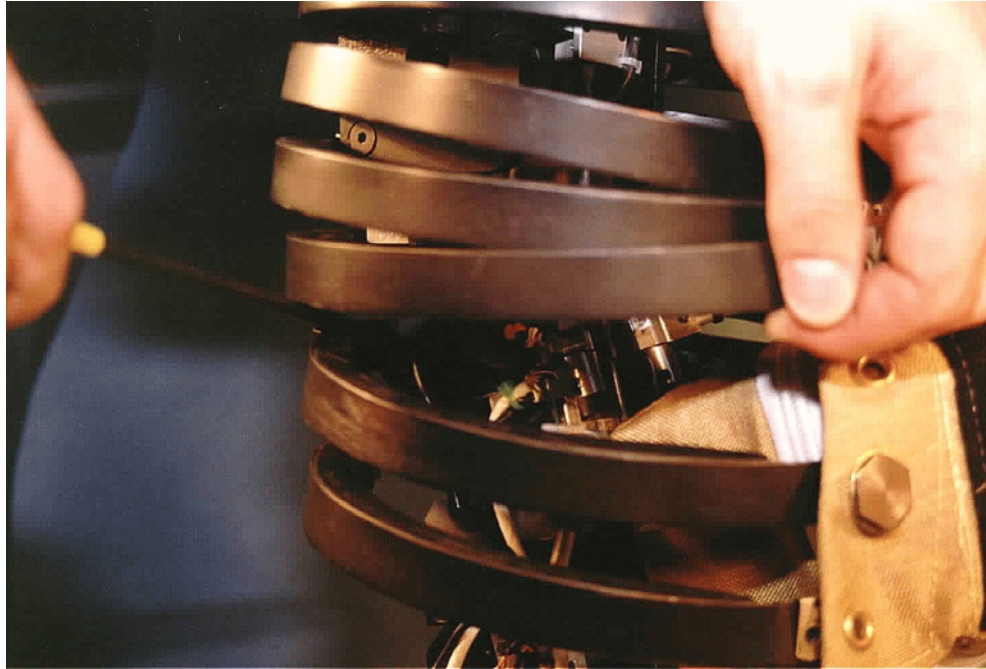

Figure 9.16- Upper abdomen mounting to spine
4. Align the holes and fasten the spinal mounting bracket to the lower thoracic spine weldment using two 5/16-18 x 1" FHSCS {3/16} into the two mounting holes in the spinal mounting bracket arms from the right side, as shown in **Figure 9.16**.